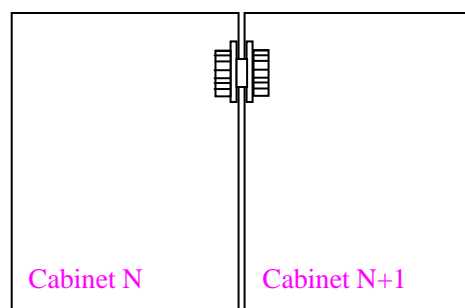

Fig4.4 Step3
Step3: installing hollow screw cap. Twist the hollow screw cap to the hollow screw as fig4.4 shows.